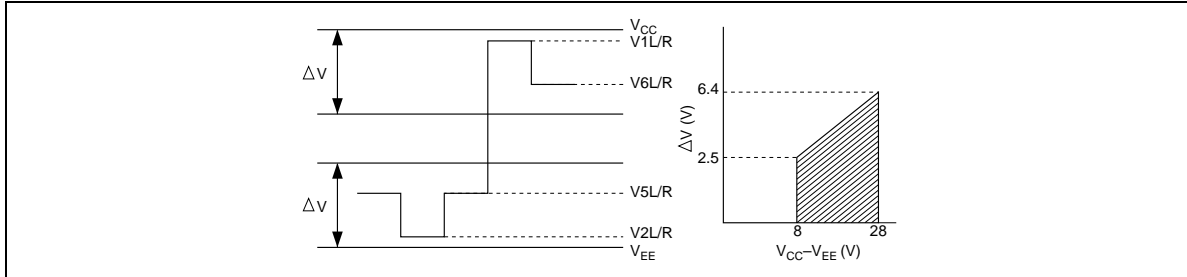

Figure 21 Relationship between Driver Output Waveform
14. V1L/R and V6L/R should be near the  $V_{CC}$  level, and V5L/R and V2L/R should be near the  $V_{EE}$  level. All these voltage pairs should be separated by less than  $\Delta V$ , which is the range within which  $R_{ON}$ , the LCD drive circuits' output impedance is stable. Note that  $\Delta V$  depend on power supply voltages  $V_{CC}-V_{EE}$ . See Figure 21.